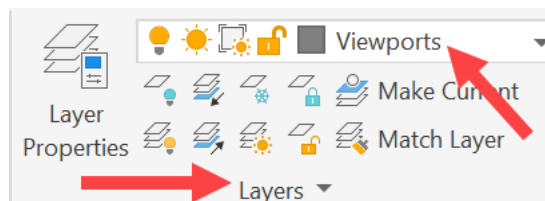

Figure 8.9: The Layers panel with the Viewports layer currently selected
- You now have more space to add other viewports to the drawing. Go to the **Layers** panel in the **Home** tab on the ribbon. Using the **Layer** drop-down menu, ensure **Viewports** is the current drafting layer, as shown in Figure 8.9: